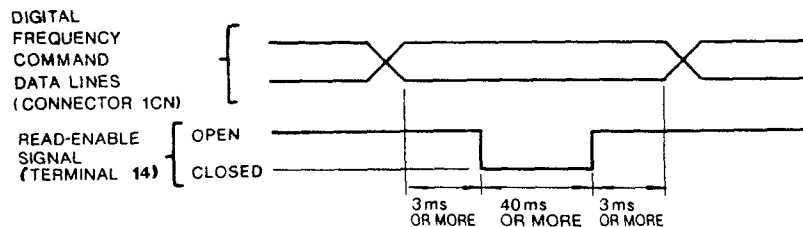

Figure 5. Timing of Digital Frequency Command Read-Enable Signal
- (3) The Precision Controller terminal 14 is for digital frequency command read-enable signal. To read the digital frequency input data, close 14 and 16 for 40 ms or more. See Figure 5. When data is to be continuously read without using the read-enable signal, jumper terminal 14 to terminal 16.